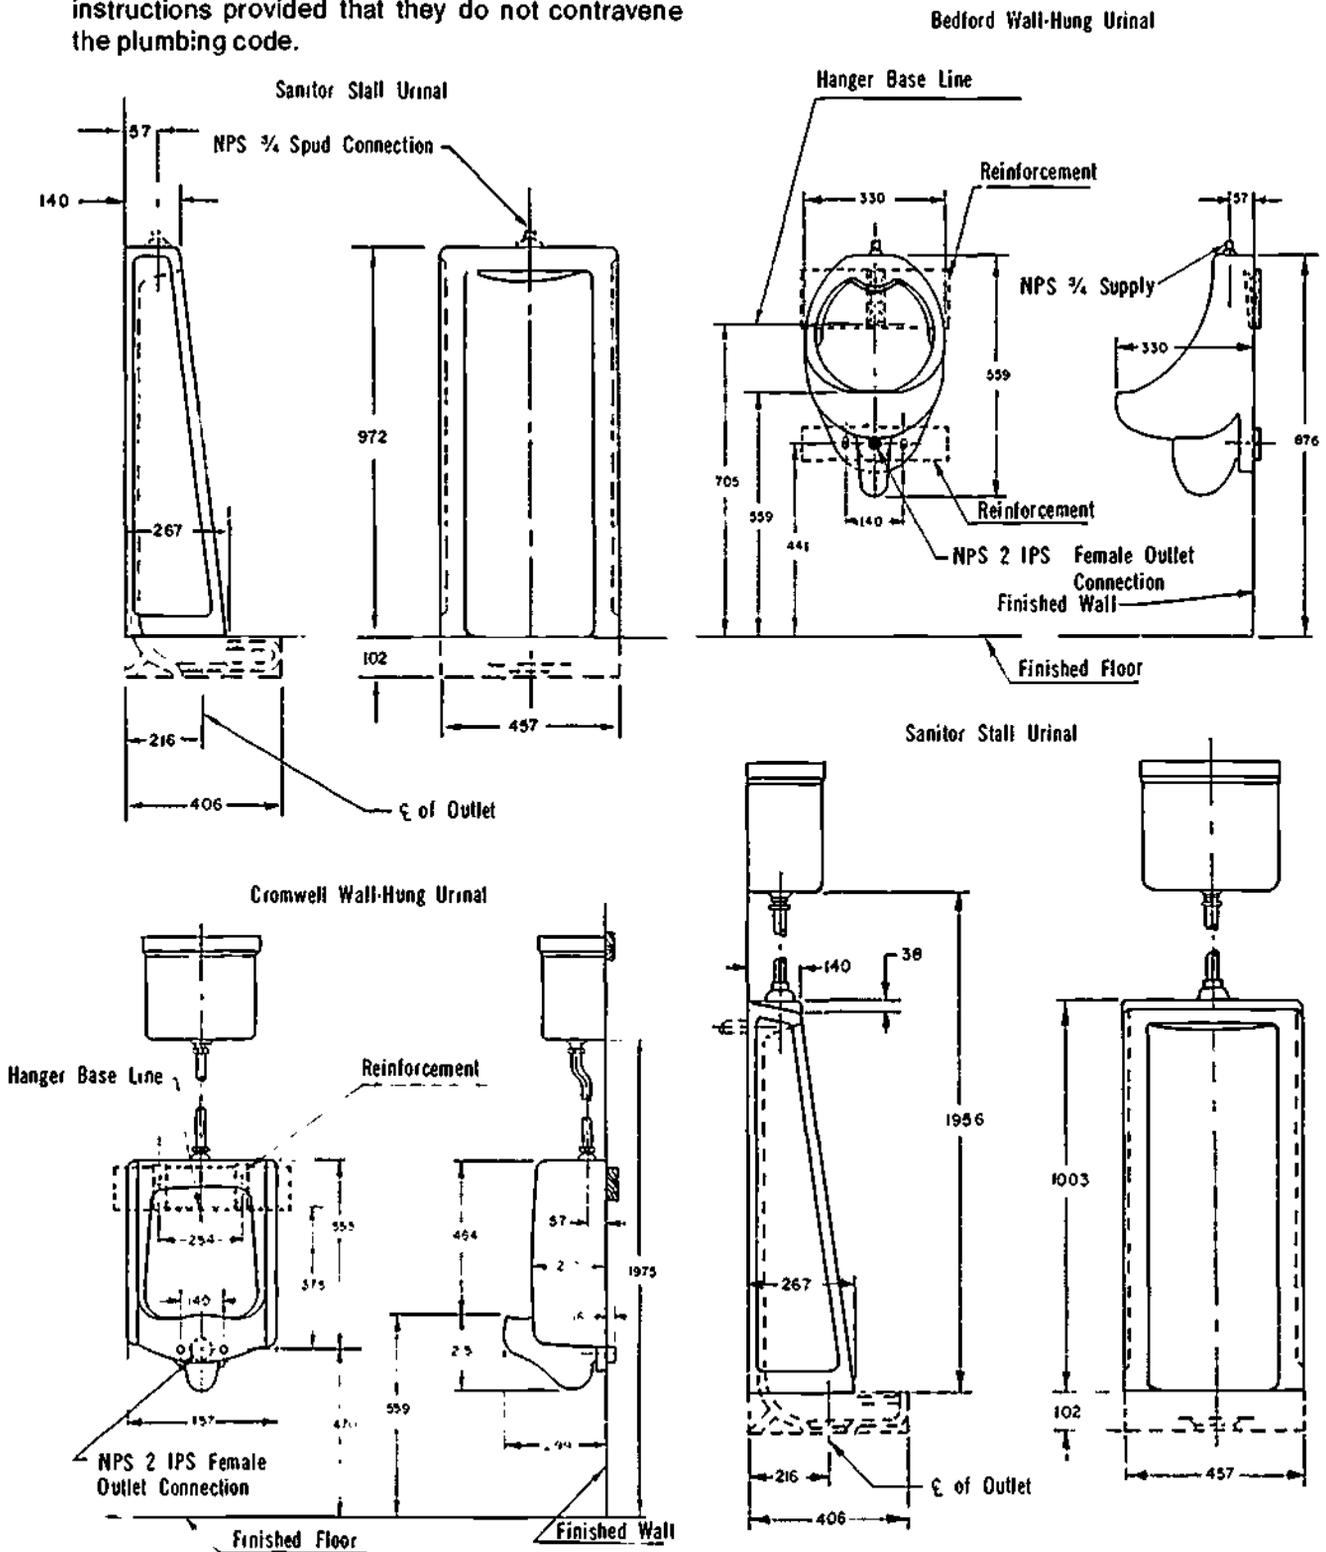

Figure 22-37. Urinal Roughing-In Measurements
b) Figure 22-37 shows typical roughing-in measurements for different types of urinals, as adapted from Crane Canada Ltd. literature.